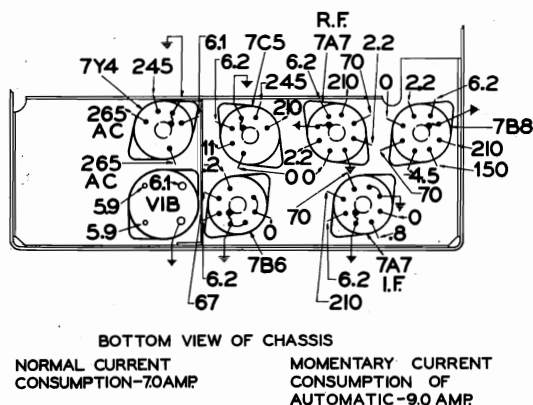

Fig. 5—Socket Voltages.
9. Adjust trimmer (E if R.F.—G if antenna stage) Fig. 5 for maximum response.